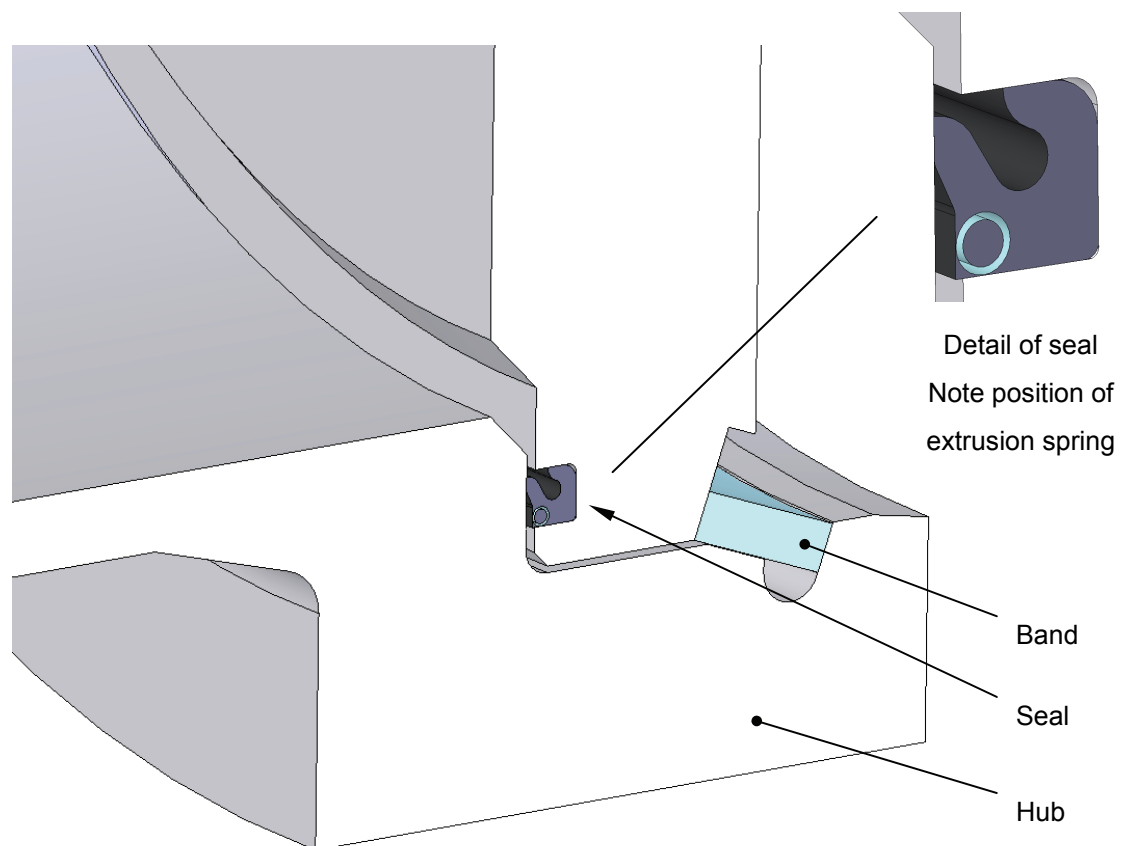

Fig 9.0 – Seal detail.
- 2 To refit the seal, present the seal to the groove with the energised lip of the seal protruding outwards (reference Fig. 9.0) and press the seal into the door seal groove at the top (12 o' clock position). Then press the seal into the bottom 6 o'clock ensuring that the seal is central in the groove. The seal should then be fitted at the 3 o'clock and again at the 9 o'clock position before working the seal evenly into the door seal groove.